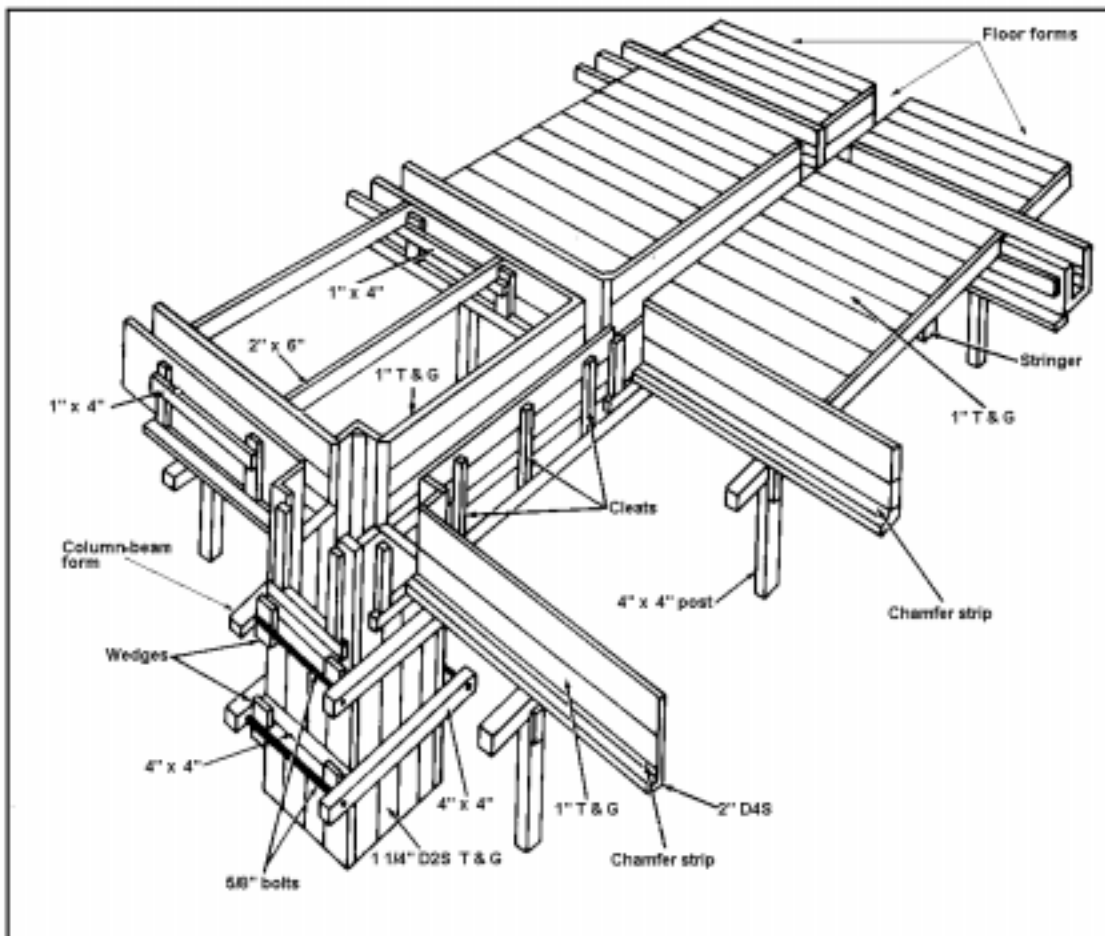

Figure 051-236-1165-1
1. Construct a concrete-overhead-beam form (Figure 051-236-1165-1).